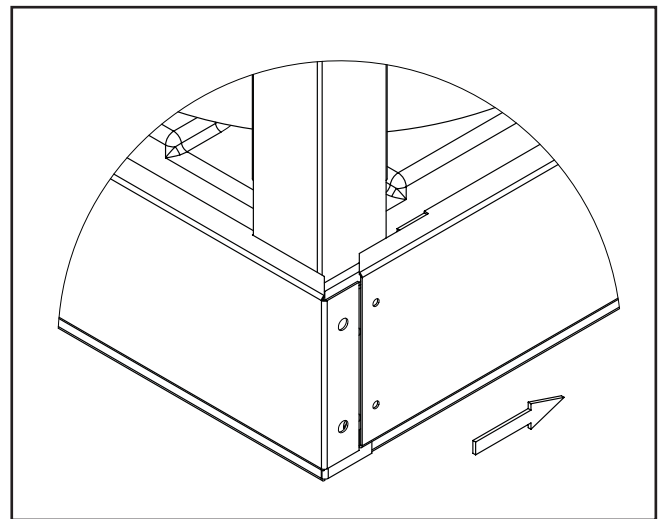
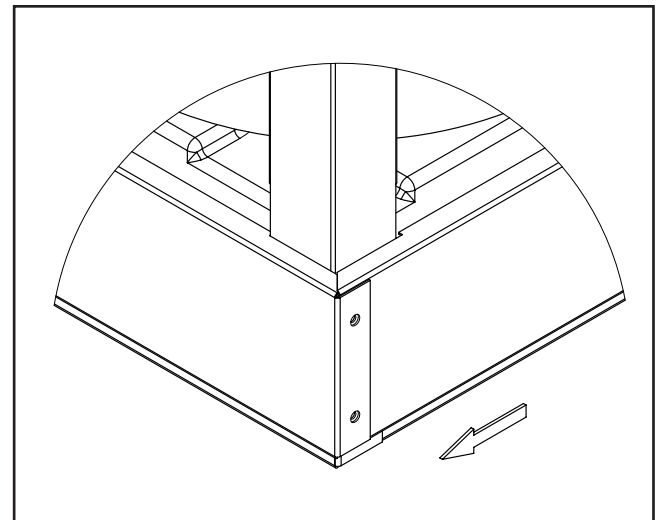

Figure 3a
Figure 3b
3. Install the first short rail cover by hooking the offset flanges of the rail cover into the fork truck openings of the base rail, as above, except holding it to the right and against the base pan wherein the upper edge of the rail cover is above the base rail and below the side sheet metal. (See Figure 3a below) slide the rail cover to the left wherein the left edge of the rail cover is under the right side flange of the previously attached rail cover. (See Figure 3b below) Then where you had removed the #10 x 1/2" screws in Step 1 use the #10 x 1 1/4" sheet metal screws to loosely secure the rail cover to the unit base. – DO NOT TIGHTEN SCREWS.
4. Install the second long rail cover by hooking the offset flanges of the rail cover into the fork truck openings of the base rail, as above, holding it to the right to clear the flange of the previously attached rail cover. Then rotate the rail cover up against the base pan wherein the upper edge of the rail cover is above the base rail and below the side sheet metal. (See Figure 3a above) slide the rail cover to the left wherein the left edge of the rail cover is under the right side flange of the previously attached rail cover. (See Figure 3b above) Then where you had removed the #10 x 1/2" Screws in Step 1 use the #10 x 1 1/4" sheet metal screws to loosely secure the rail cover to the unit base. – DO NOT TIGHTEN SCREWS.
- (See Figure 3a above) Slide the rail cover to the left wherein the left edge of the rail cover is under the right side flange of the previously attached rail cover. (See Figure 3b above) Then where you had removed the #10 x 1/2" screws in Step 1 use the #10 x 1 1/4" sheet metal screws to loosely secure the rail cover to the unit base. – DO NOT TIGHTEN SCREWS.